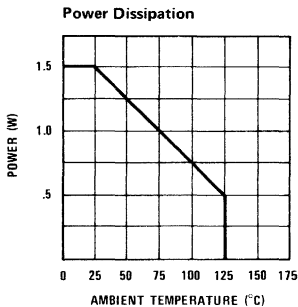

Figure 1.
**Note 1:** Characteristics apply for circuit of Figure 1. Min and max limits apply from -55°C to +125°C for the MH0012 and from 0°C to +85°C for the MH0012C. Typical values are for  $T_A = 25^\circ C$ .